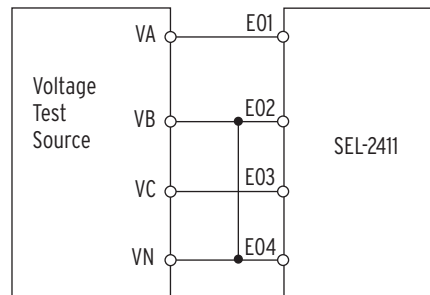

Figure 10.7 Delta Voltage Source Connections
- Step 2. Connect the voltage source to the device as shown in Figure 10.7. Make sure that the voltage setting is set to DELTA_Y = Delta.